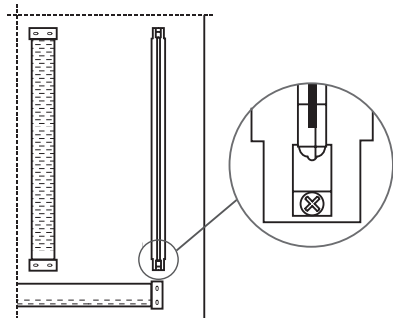

Figure 7.2
3. The lamps are secured by a screw at each end. Loosen them so far as to free the lamp ends (see Figure 7.2)